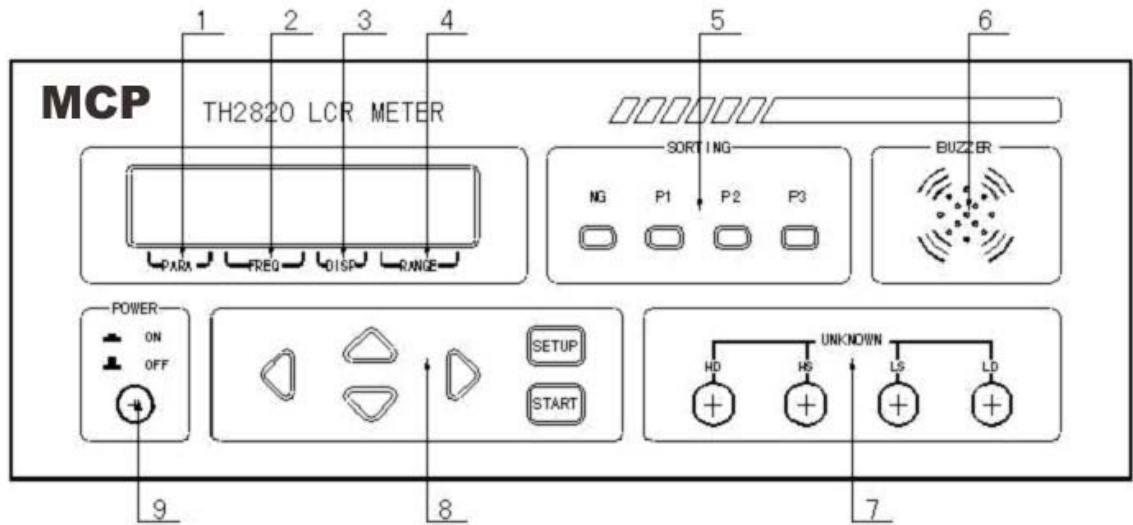

Figure 2-1 Front panel
Following is the description of items 1~9 in Figure 2-1.